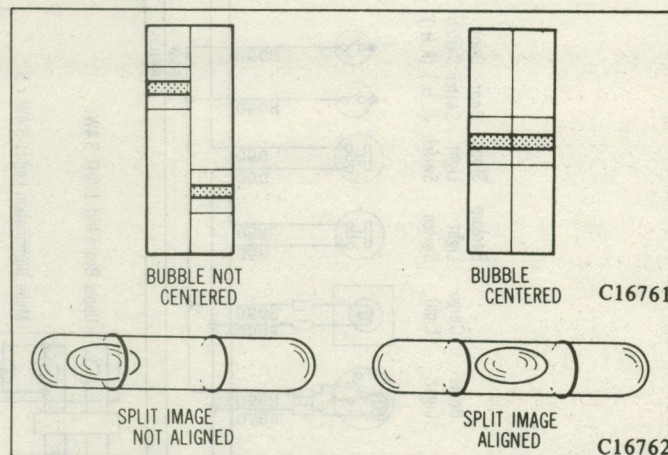
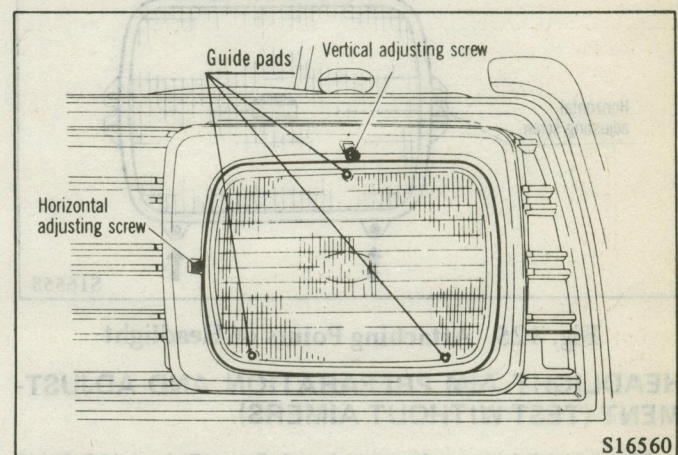

Fig. 121 Split Image and Level Vial Bubble Alignment
Fig. 124 Headlight Adjusting Points
(4) Look into top port hole of Unit A. Turn horizontal knob until split image is aligned. (Fig. 121)
(6) With both calibration level vials centered turn vertical dial knobs on each aimer until aimer level vials are centered. If aimer vertical dial pointers read between 1/2 up and 1/2 down, aimers are within allowable vertical tolerance. Re-calibrate units if beyond these limits. (Figs. 121 and 122)
(7) Adjust horizontal dial knob on each aimer until split image targets align. If aimer horizontal dial pointers read between 1 left and 1 right, the aimers are within allowable tolerance limits. Re-calibrate units if beyond these limits. (Figs. 121 and 122)
- (1) Set horizontal dial to zero.
- (2) Check to see that the split image target lines are visible in the viewing port. If necessary, rotate each aimer slightly to locate the target. (Fig. 121)
- (3) Turn horizontal adjusting screw (Fig. 124) on side of headlight until split image of target line appears in mirrors as one solid line. (Fig. 121) To remove "backlash," make final adjustment by turning adjusting screw in a clockwise direction.
- (4) Repeat steps (1) through (3) on opposite headlight.
- (1) The vertical dial should be set at zero. (For passenger vehicles, an "0" setting is generally required. For special settings, consult local state laws.)
(2) Turn vertical adjusting screw (Fig. 124) until the level bubble is centered between the lines. (Fig. 121)
(3) Repeat the last two steps on the opposite headlight.
(4) Re-check target alignment on both aimers and readjust horizontal aim if necessary.
(5) Remove aimers by pressing "vacuum release" button located on piston handle.
(6) Install headlight trim rings if removed.